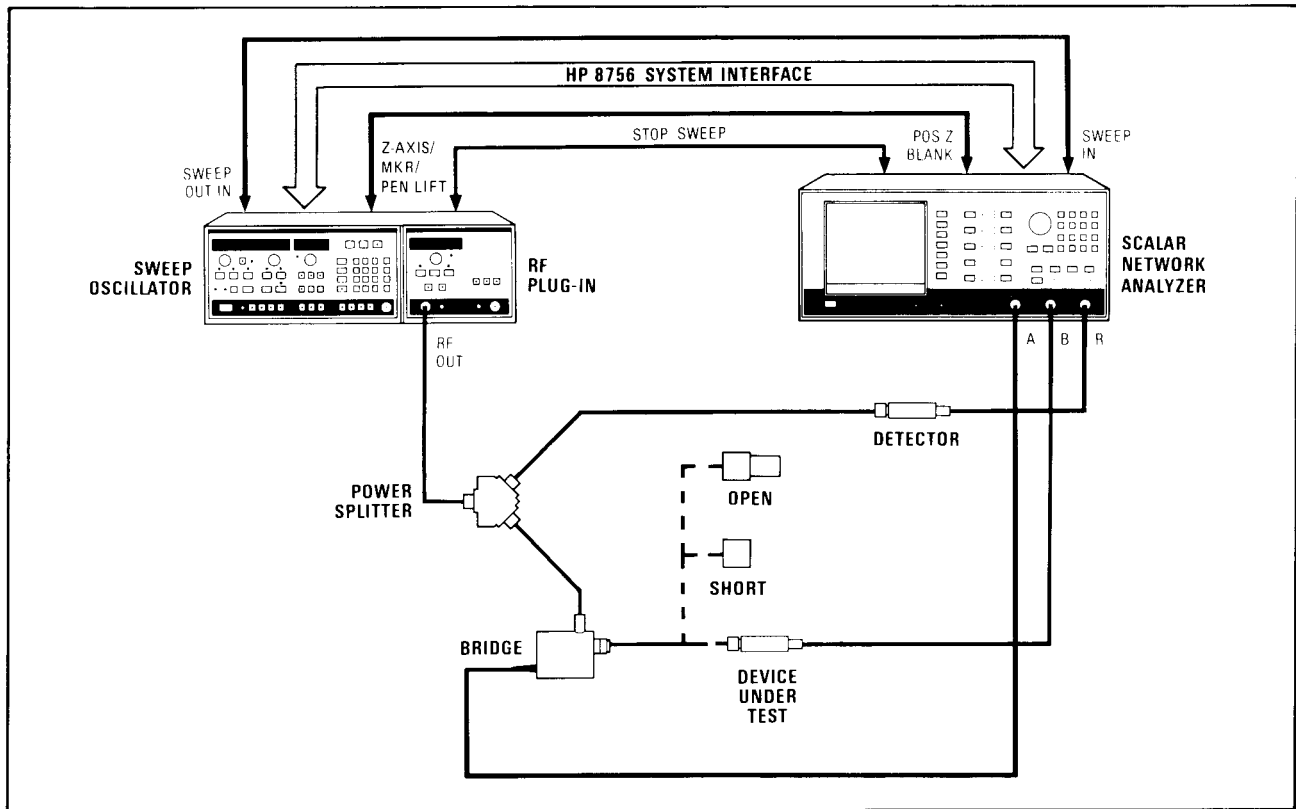

Figure 4-1. Return Loss Test Setup
1. Set up equipment as shown in Figure 4-1, with nothing connected to the bridge **TEST PORT**. Press **[PRESET]** on the HP 8756A. This will preset both the HP 8756A and the HP 8350B (this will turn the HP 8350B **[MOD]** on and set the sweep time to 200ms). Allow 30 minutes warm-up.